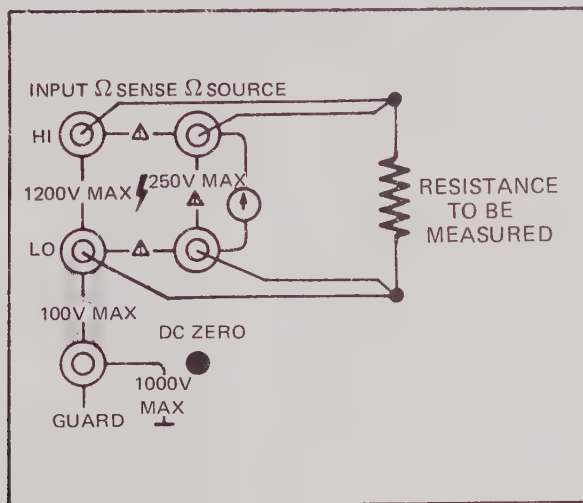

Figure 4. FOUR-TERMINAL MEASUREMENT CONFIGURATION
- b. Connect test leads to the 8800A/AA terminals in a four-terminal configuration as shown in Figure 4.
All Resistance Inputs to the 8800A/AA must be connected using the Four-Terminal configuration shown shown in Figure 4.